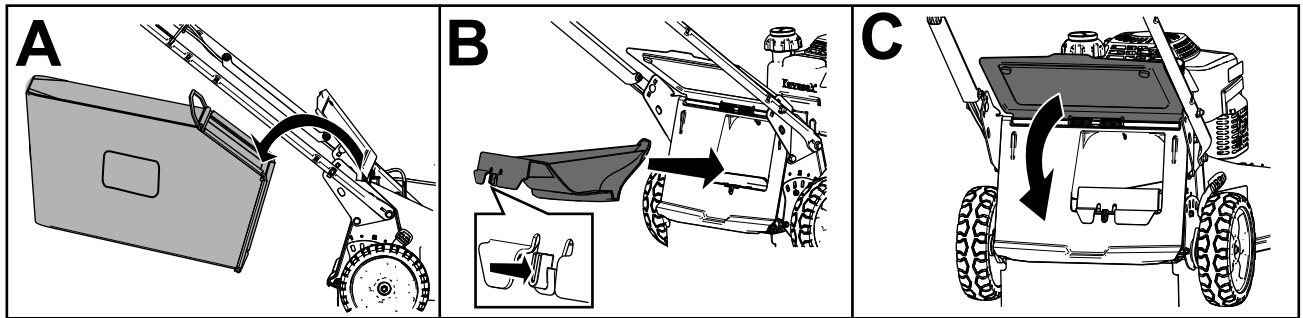

Figure 19
- If the grass bag is on the machine, remove it (A of Figure 19).
- If the rear-discharge plug is not installed, grip it by the handle, raise the rear deflector, and insert it into the rear-discharge chute until the latch locks into place (B of Figure 19).
3. Remove the bag rod on the grass bag from the notches at the base of the handle (A of Figure 19).
4. Install the discharge plug (B of Figure 19).
5. Lower the rear deflector (C of Figure 19).